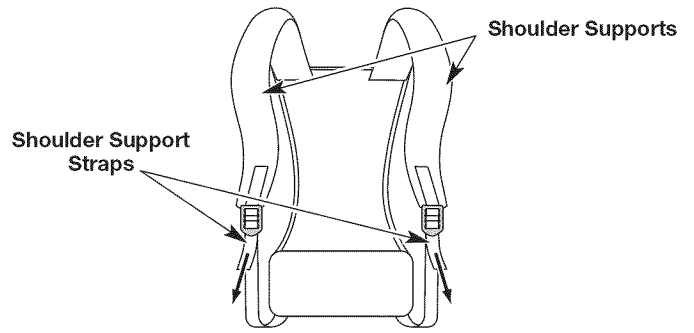

Fig. 10
2. Pull the shoulder support straps down to tighten the shoulder supports (Fig. 10).